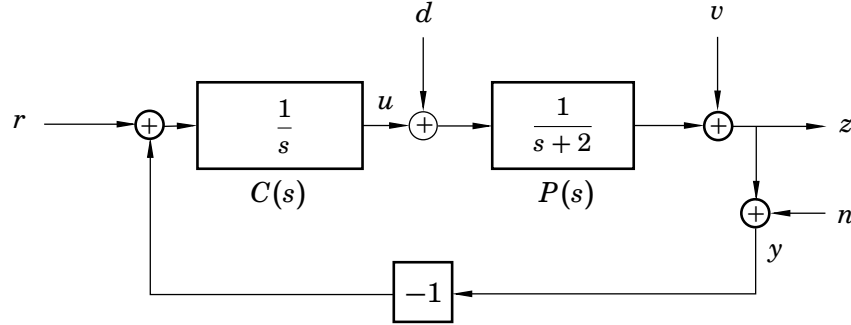

Figure 3.1 System in Problem 3.1.
- 3.1** A feedback system is shown in Figure 3.1, in which a first-order process is controlled by an I controller.